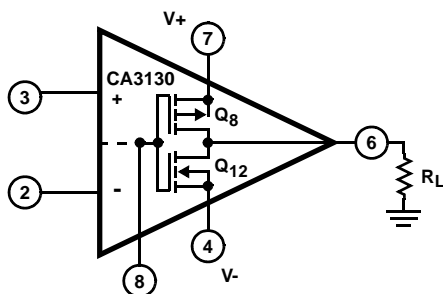

FIGURE 6A. DUAL POWER SUPPLY OPERATION
Because the CA3130 is very useful in single-supply applications, it is pertinent to review some considerations relating to power-supply current consumption under both single-and dual-supply service. Figures 6A and 6B show the CA3130 connected for both dual-and single-supply operation.
**Single-supply Operation:** Initially, let it be assumed that the value of  $R_L$  is very high (or disconnected), and that the input-terminal bias (Terminals 2 and 3) is such that the output terminal (No. 6) voltage is at  $V+/2$ , i.e., the voltage drops across  $Q_8$  and  $Q_{12}$  are of equal magnitude. Figure 20 shows typical quiescent supply-current vs supply-voltage for the CA3130 operated under these conditions. Since the output stage is operating as a Class A amplifier, the supply-current will remain constant under dynamic operating conditions as long as the transistors are operated in the linear portion of their voltage-transfer characteristics (see Figure 2). If either  $Q_8$  or  $Q_{12}$  are swung out of their linear regions toward cut-off (a non-linear region), there will be a corresponding reduction in supply-current. In the extreme case, e.g., with Terminal 8 swung down to ground potential (or tied to ground), NMOS transistor  $Q_{12}$  is completely cut off and the supply-current to series-connected transistors  $Q_8$ ,  $Q_{12}$  goes essentially to zero. The two preceding stages in the CA3130, however, continue to draw modest supply-current (see the lower curve in Figure 20) even though the output stage is strobed off. Figure 6A shows a dual-supply arrangement for the output stage that can also be strobed off, assuming  $R_L = \infty$  by pulling the potential of Terminal 8 down to that of Terminal 4.